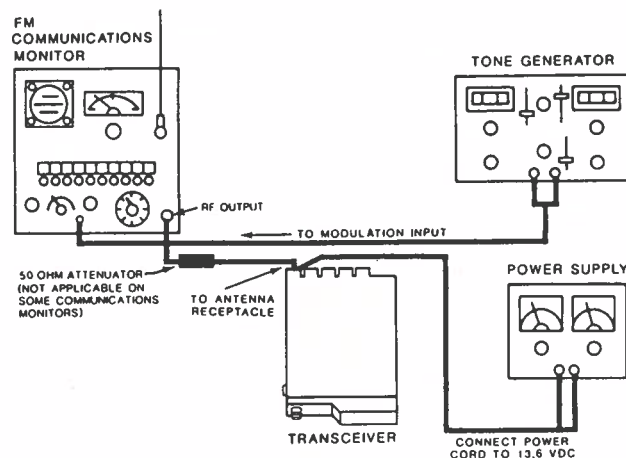

Figure 9. RX Test Setup
1. Connect the test equipment as illustrated in Figure 9.